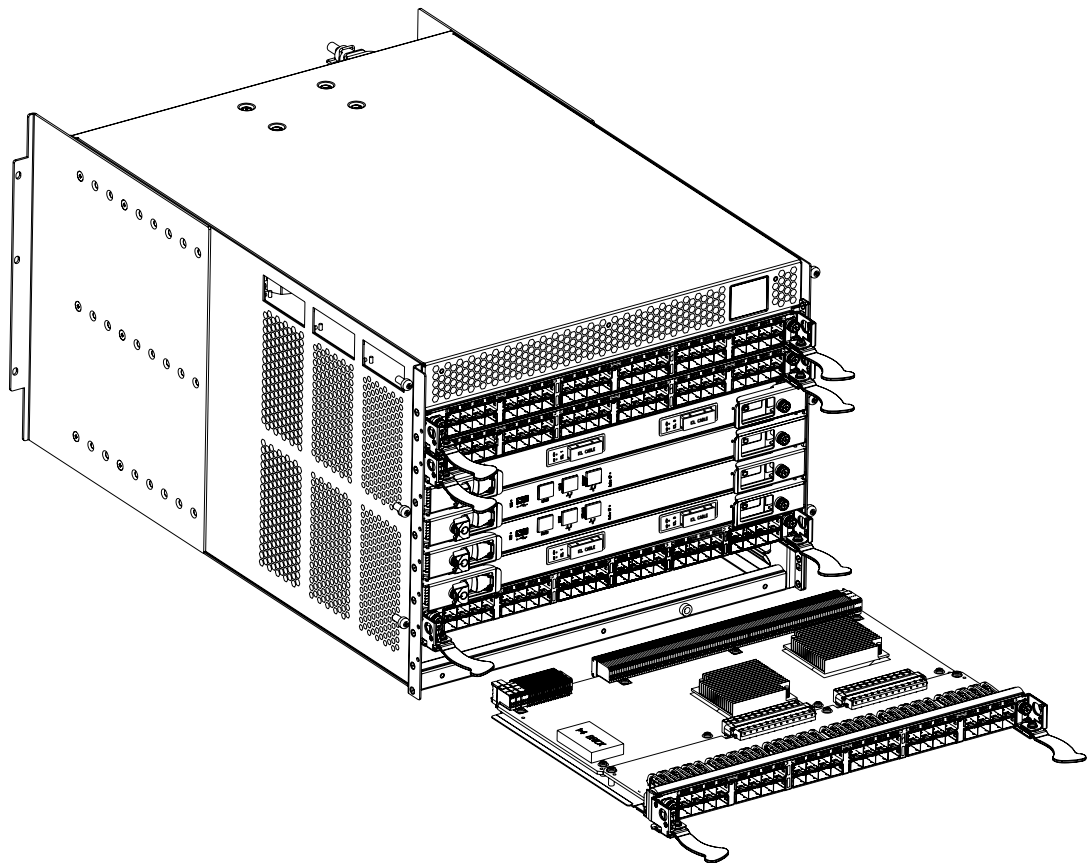

FIGURE 21 RRP: Port, application, or encryption blade (FC8-48 port blade shown)
- **For FC8-16, FC8-32, FC8-48 port blades, FX8-24, FCOE10-24 application blades, and FS8-18 encryption blade:** Unscrew the two thumb screws from the left and right ejectors on the blade using the Phillips screwdriver. Unscrew the left thumb screw until it pops out. This initiates a hot-swap request. Adjust the ejectors to the open position (Figure 21).
- **For FC8-16, FC8-32, and FC8-48 port blades, FX8-24, FCOE10-24 application blades, and FS8-18 encryption blade:** Open the ejectors. Pull the blade out of the chassis using the ejectors (Figure 21).